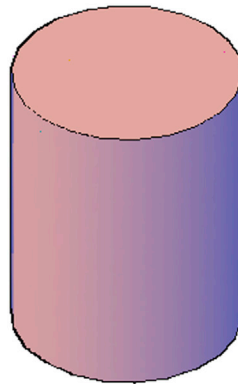

FIGURE 23.22 Cylinder primitive.
Step 4. Drag your mouse up (or enter a value) and the cylinder shape is automatically extruded, as seen in Fig. 23.22.